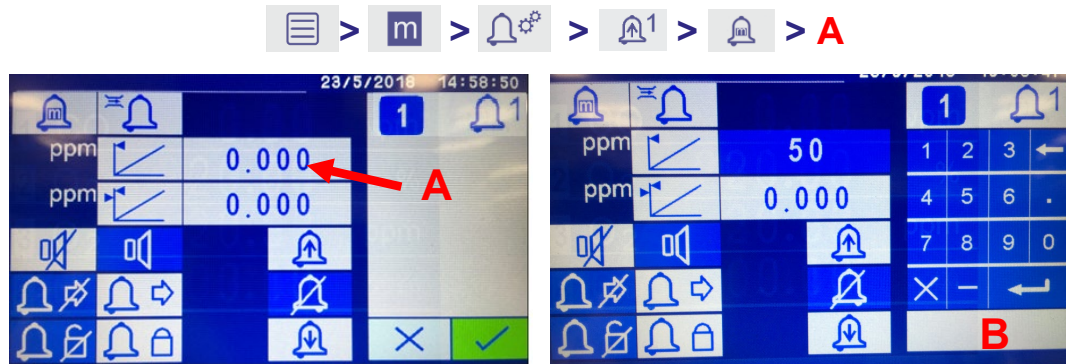

Figure 7-10: Alarm Threshold values set by pressing (A) and number key pad (B).
1. Touch the number to the right of the  icon as shown in Figure 7-10 A.
2. Use the number keypad shown in Figure 7-10 B to type in the threshold value then press  to accept the value or  to cancel the entry.
3. To save the alarm settings to the current alarm, press the  icon shown in the left screen in Figure 7-10 A.
4. To abort the changes and return to the original settings prior to entering the Alarm Setting screen, press the  icon. This icon appears in place of the Return icon  in Figure 7-10 A if changes have been made to the settings.